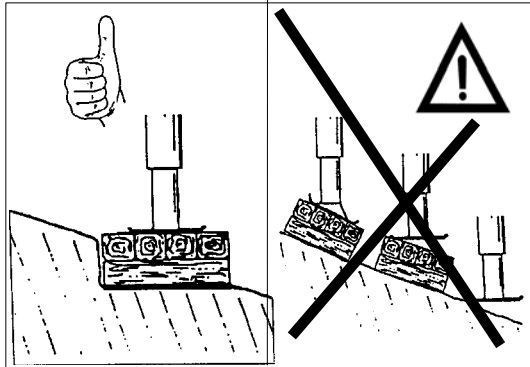

FIG. 42
- The ground must be flat. If the support plates are rested on rough ground, they will break (fig. 42).